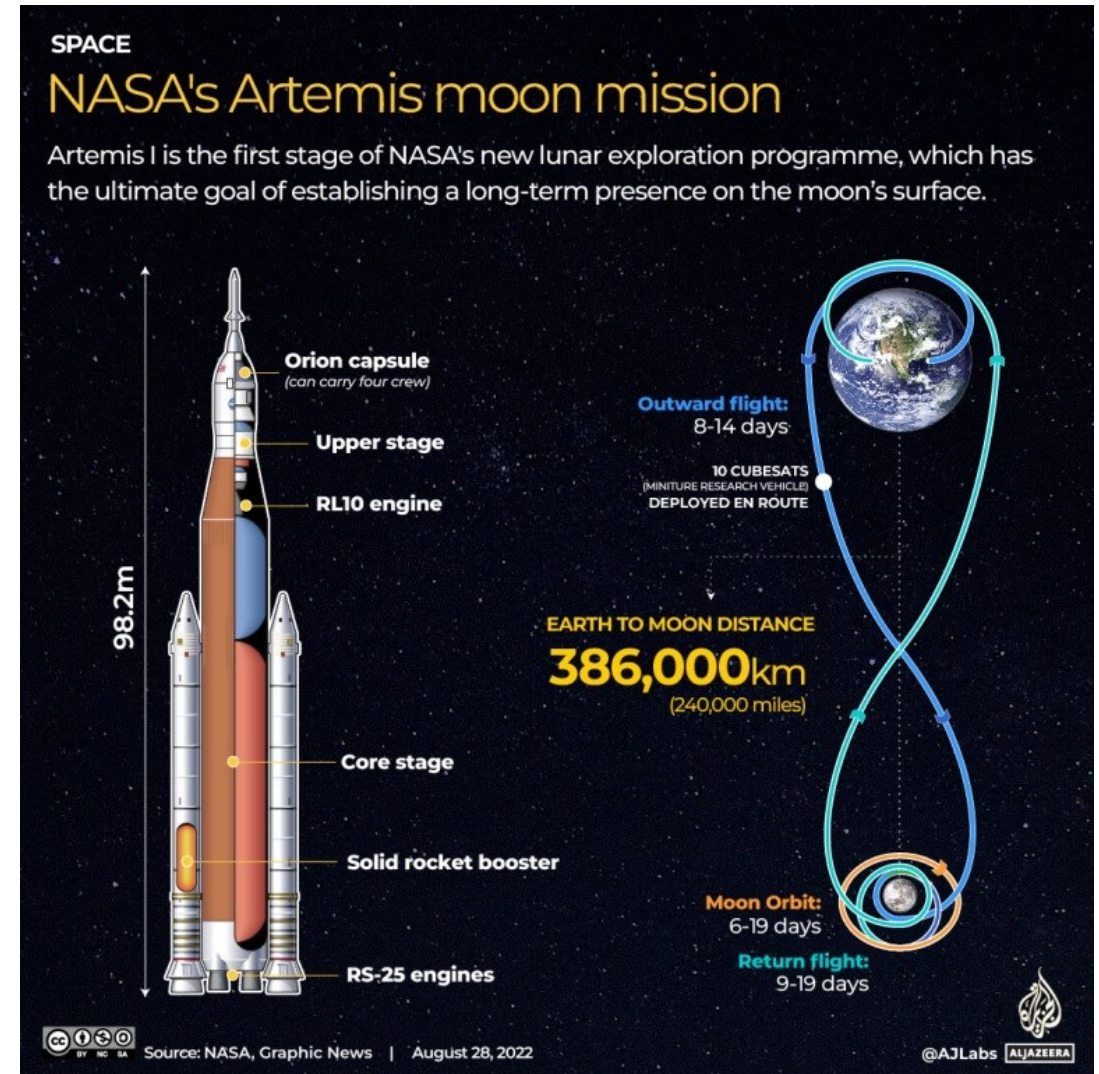

Figura 8: Missione Artemis
- Figura 8, <https://234radio.com/what-is-nasas-artemis-moon-mission-and-how-can-you-watch-it/>